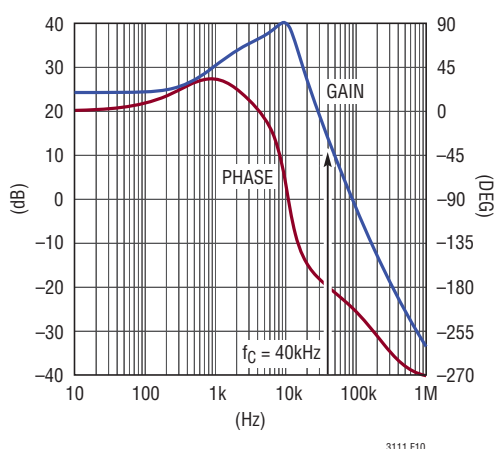

Figure 10. Converter Bode Plot $V_{IN} = 3.5V$, $V_{OUT} = 5V$, $R = 10\Omega$
This example will be designed for a 60° phase margin to ensure adequate performance over parametric variations and varying operating conditions. As a result, the target crossover frequency, f_c , will be the point at which the phase of the buck-boost converter reaches -180° . It is generally difficult to determine this frequency analytically given that it is significantly impacted by the Q factor of the resonance in the power stage. As a result, it is best determined from a Bode plot of the buck-boost converter as shown in Figure 10. This Bode plot is for the LTC3111 buck-boost converter using the previously specified power stage parameters and was generated from the small-signal
From the Bode plot of Figure 10 the gain of the power stage at the target crossover frequency is 13.5dB. Therefore, in order to make this frequency the crossover frequency in the compensated loop, the total loop gain at f_c must be adjusted to 0dB. To achieve this, the gain of the compensation network must be designed to be -13.5dB at the crossover frequency.
Figure 10 is a line graph showing Efficiency (%) versus Load Current (A) for the TPS7A02. The x-axis is logarithmic, ranging from 0.0001 A to 10 A. The y-axis is linear, ranging from 30% to 100% efficiency. Three curves are plotted for different input voltages (V_{IN}):